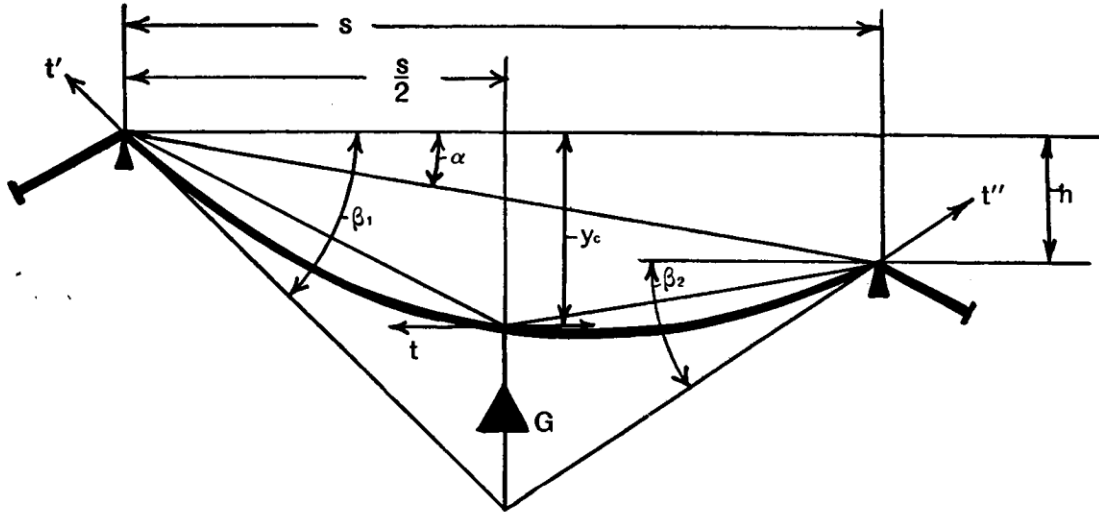

Figure 5
If the chord is inclined, similar to Fig. 5, then the center deflection is found by adding $\frac{h}{2}$ to (26). Then: